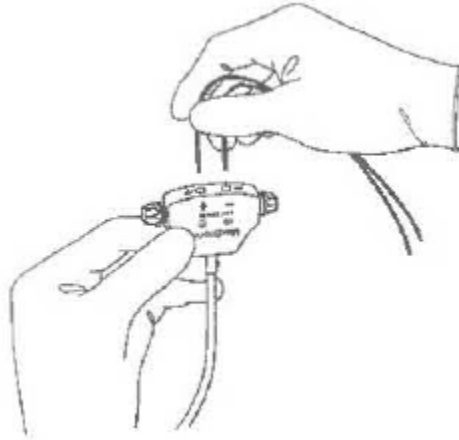

Figure 5. Connecting the pacing lead to the Model 5492AL and 5492VL patient cable
1. Loosen the connector knobs by twisting each knob counterclockwise until resistance is felt. Observing polarity, insert lead connector pins as shown (see Figure 5).